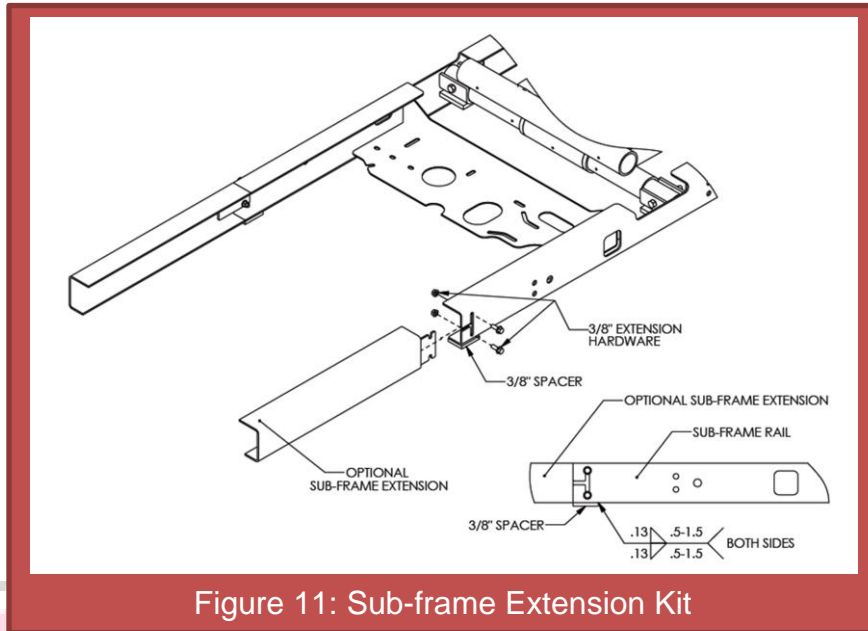

Figure 11: Sub-frame Extension Kit
4. Position the provided 3/8" spacers under each sub-frame rail as far forward as possible. Secure to rail by welding as shown. (**Figure 11**)